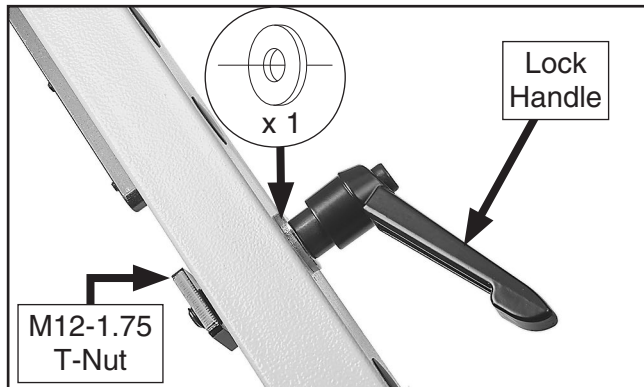

Figure 41. Crosscut lock handle installed on crosscut table.
36. Thread M12-1.75 x 55 adjustable lock handle with (1) 12mm flat washer through hole in short side of crosscut table and into (1) M12-1.75 T-nut, as shown in **Figure 41**.